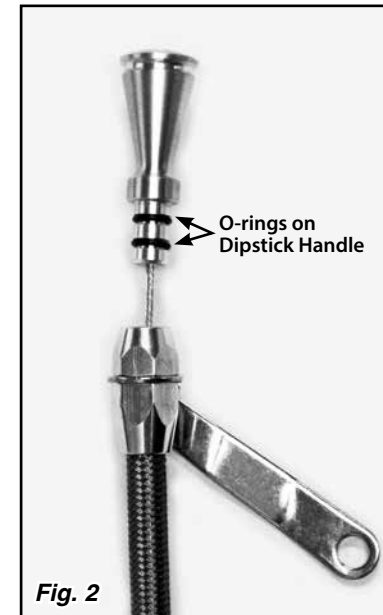
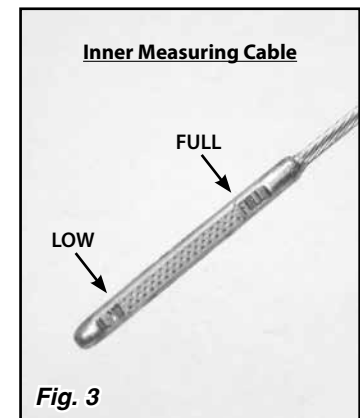

Fig. 2
Fig. 3
Step 4: Lightly lubricate the O-rings on the dipstick handle with engine oil. **Fig. 2** Insert the handle and inner measuring cable fully into the dipstick tube assembly. Fill the engine with the appropriate amount of oil for your particular application. Verify the oil level is at the FULL mark on the inner measuring cable. **Fig. 3** If it is not, call Lokar Technical Support for assistance. If the oil level reads correctly, then return the handle and inner measuring cable into the dipstick tube assembly.